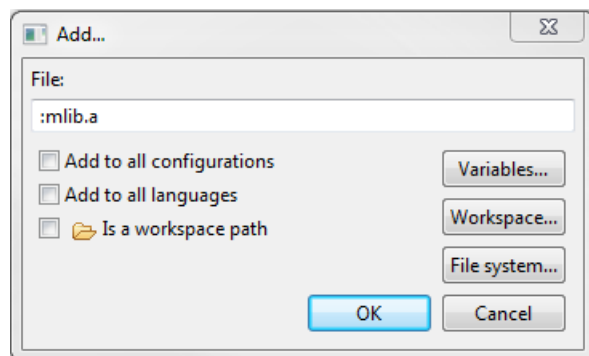

Figure 1-13. Library file inclusion
11. Type the following into the File text box (see Figure 1-13): :mlib.a